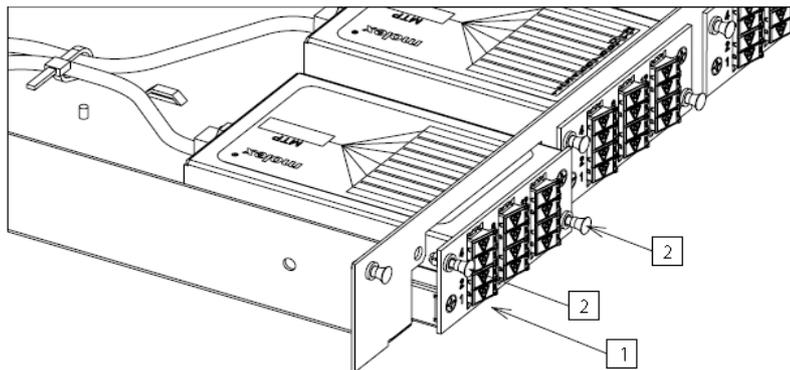

Fig. 7
3.7 Installing ModLink Cassettes (Fig. 7)